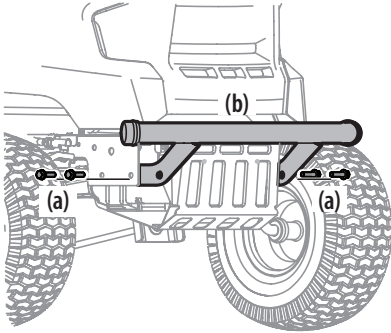

Figure 15
2. Position the bumper brackets to the inside of the tractor's frame and secure it in place with the four hex flange screws (a). See Figure 15.